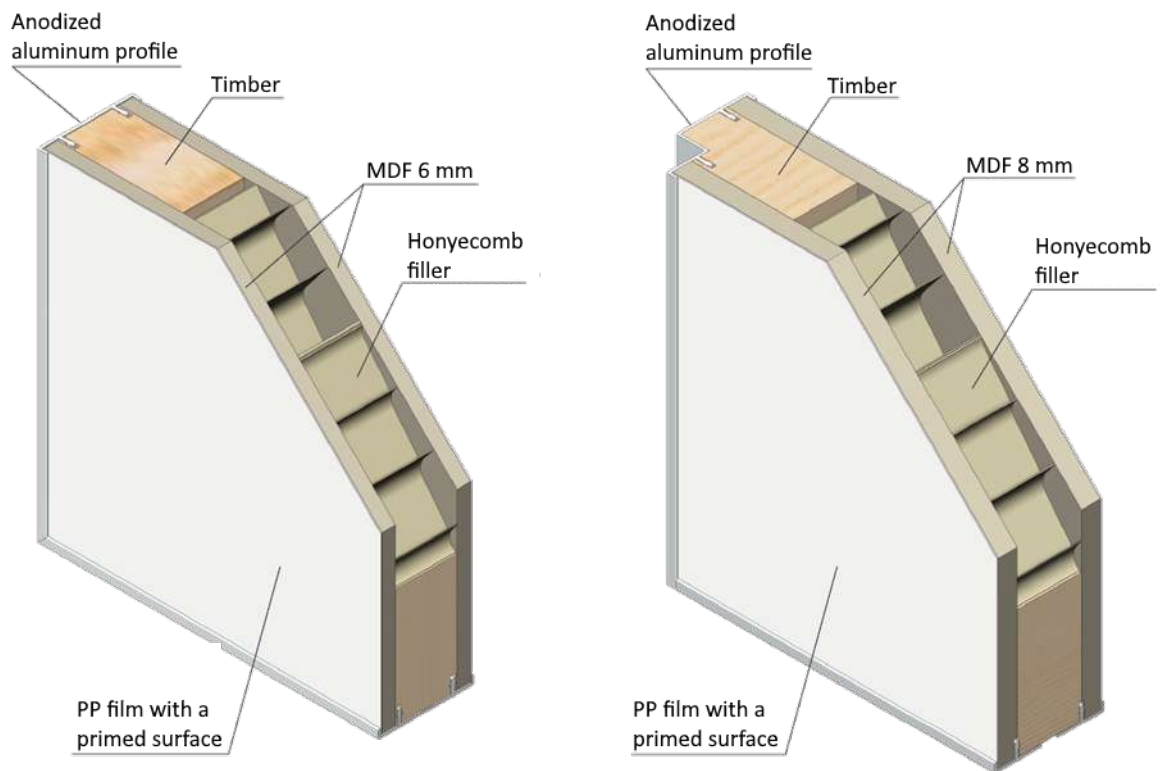

fig. 1
2. PRIME-AL model: the door leaf edges are decorated with an anodized aluminum profile. The door leaf thickness is 42 mm (fig. 1).
2. PRIME-INSIDE-AL model: the door leaf edges are decorated with an anodized aluminum profile. The door leaf thickness is 46 mm (fig. 1).